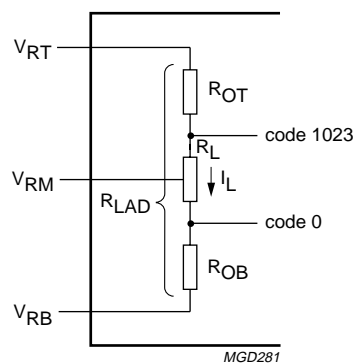

Fig.3 Explanation of note 3.
3. In order to ensure the optimum linearity performance of such converter architecture the lower and upper extremities of the converter reference resistor ladder (corresponding to output codes 0 and 1023 respectively) are connected to pins V_{RB} and V_{RT} via offset resistors R_{OB} and R_{OT} as shown in Fig.3.